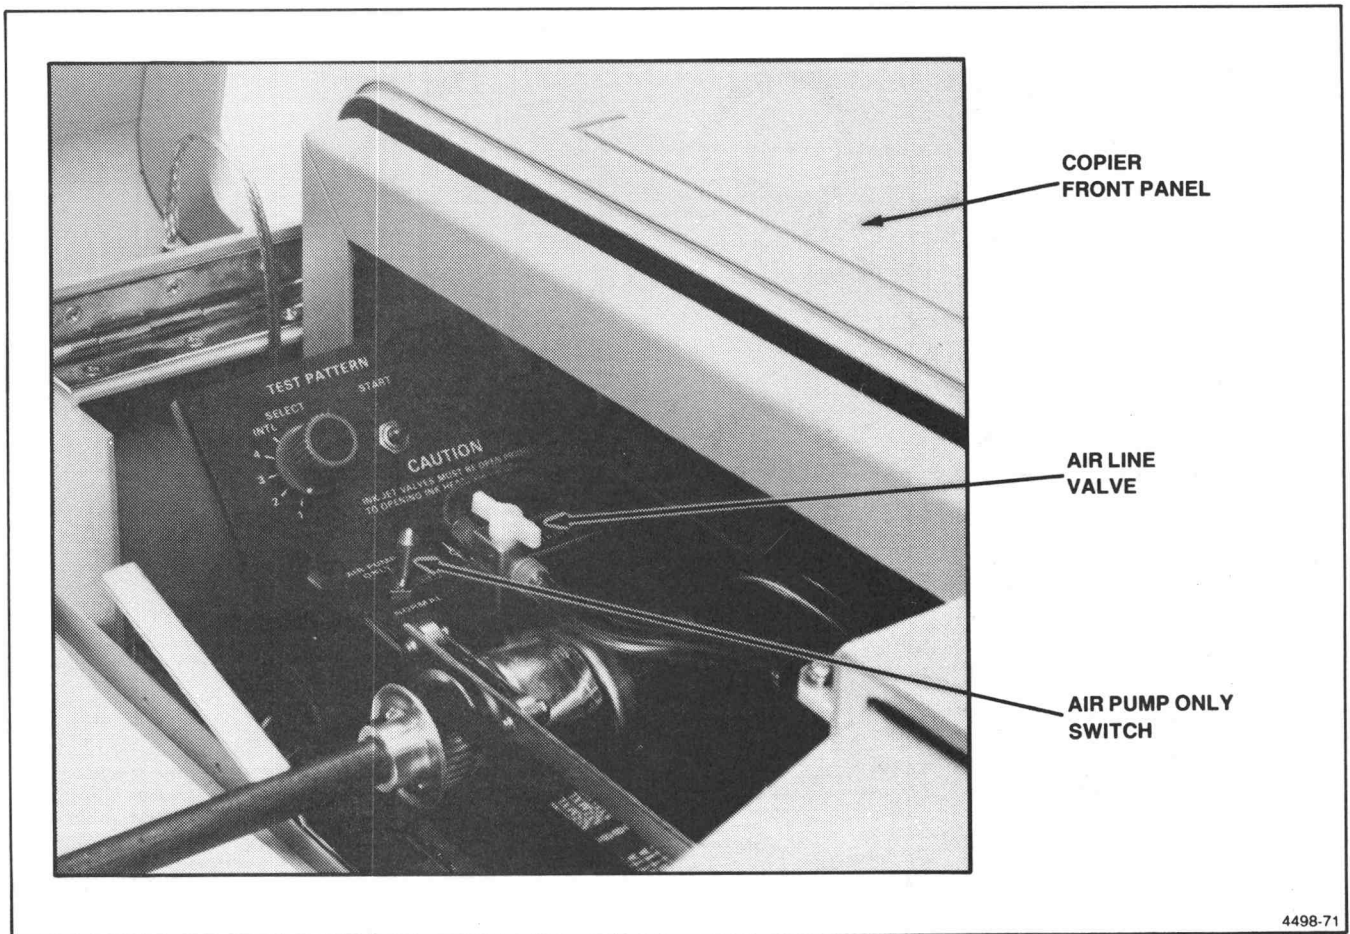

Figure 11-1. Air Pump Switch and Air Line Valve Location.
3. Set the copier's air pump switch to the AIR PUMP ONLY position. The air pump switch is located near the right front corner of the copier (see Figure 11-1). This does not in itself turn the air pump on. The air pump will turn on when the copier is powered-up later.
4. Turn off the air valve located near the air pump switch. When the valve's handle is turned 90 degrees to the tubing the valve is in the "off" position (see Figure 11-1).
4. Ensure that the copier's AIR PUMP ONLY switch is in the AIR PUMP ONLY position. This switch is located near the right-front corner of the copier (see Figure 11-1).
8. Open the air valve located near the air pump switch (see Figure 11-1).